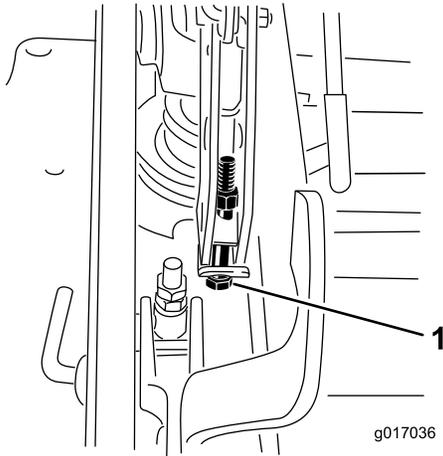

**Figure 88**
- 12. To adjust the single point system, loosen the two bolts at the bottom of the height-of-cut plate. Refer to Figure 88.
- Tighten the 2 bolts at the bottom of the height-of-cut plate (Figure 88). Torque them to 37 to 45 N-m (27 to 33 ft-lb).